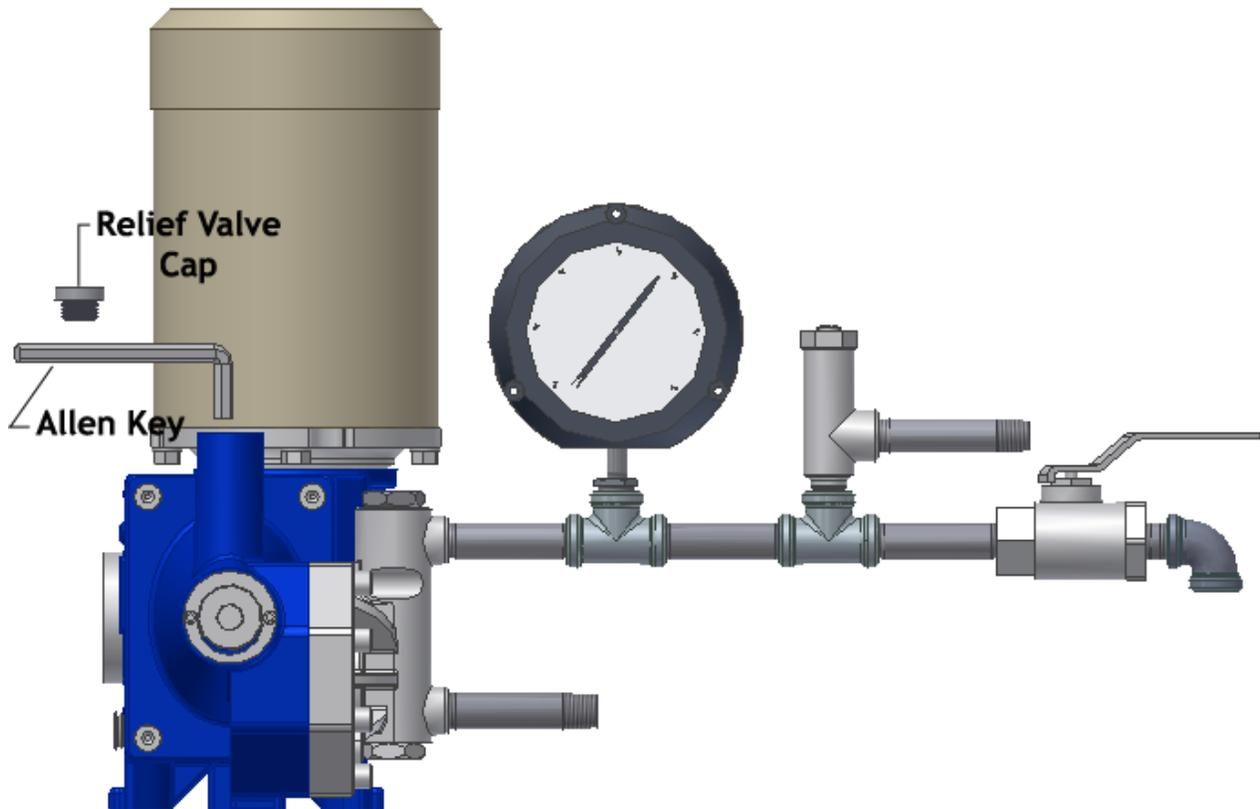

FIGURE 2
- 4.0.10 Connect a test set-up as shown in **Figure 2** (Page 11)